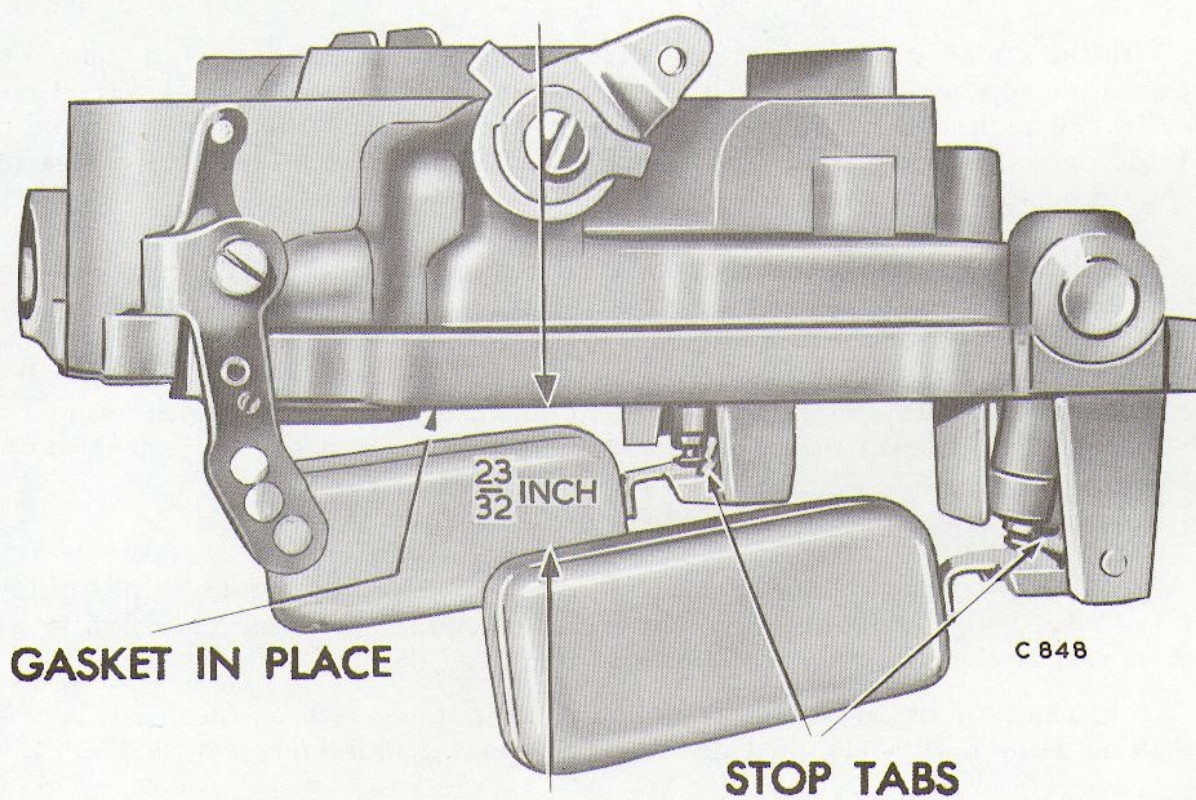

Fig. 18 Checking Float Drop
- (1) Holding the air horn in an upright position, measure the distance from the top of the floats (outer end) to the air horn gasket, as shown in Fig.18. This measurement should be 23/32 inch. If an adjustment is necessary, bend the stop tabs on the float levers until the correct drop setting has been obtained. Bend the tap towards the needle seat to lessen the drop, or away from the seat to increase the drop.
- (2) After the floats have been checked and adjusted, continue to assemble the carburettor as follows:
- (3) Place the accelerator pump plunger lever spring in the pump cylinder, then lower, the air horn carefully down on the main body.